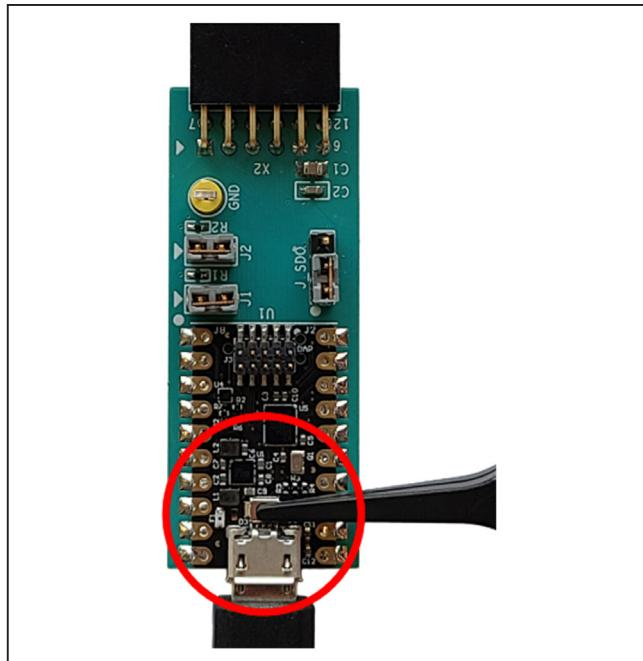

Figure 8. Enter Maintenance Mode on the MAX32625PICO.
- 1) Put the board in maintenance mode by holding the button while the board is being connected to the computer. It may be easier to hold the button while inserting the USB cable at the computer end rather than the micro USB connector end (see Figure 8).